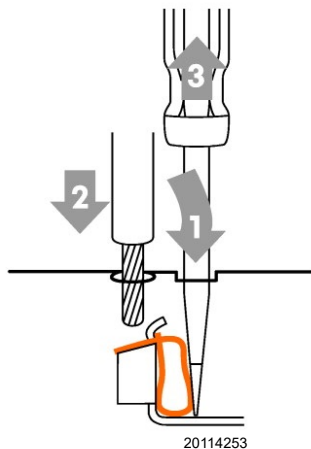

Fig. 29
- Insert the previously stripped cable and remove the screwdriver. Make sure the cable is securely fastened Fig. 29.